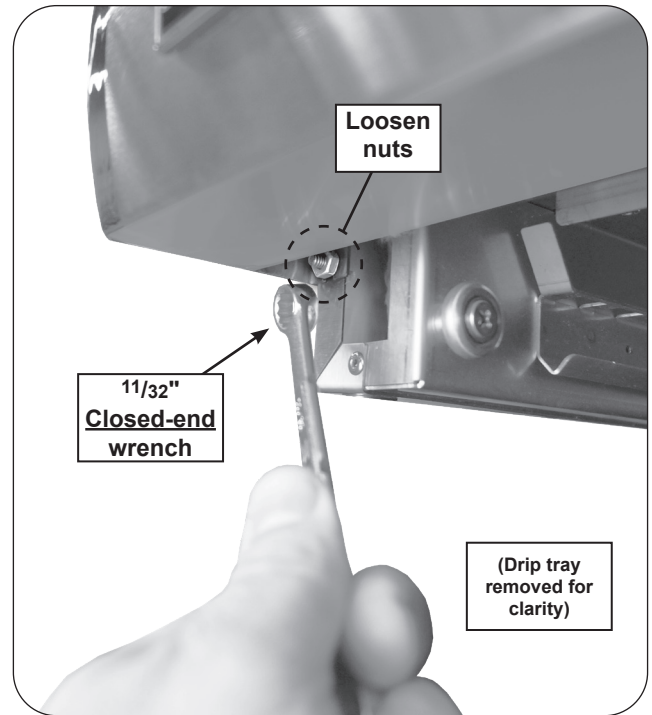

Fig. 46-1 Remove control panel
3. Loosen the nuts underneath the left and right sides of the control panel with a 11/32" wrench (see Fig. 46-1), then lift the panel until it is freed from the screws. Carefully rest the bottom of the control panel on the drip tray. The top of the control panel is supported by the internal chains.